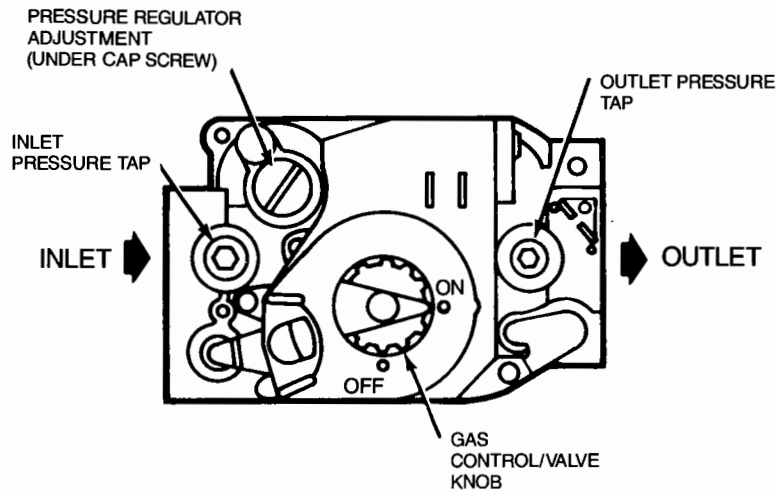
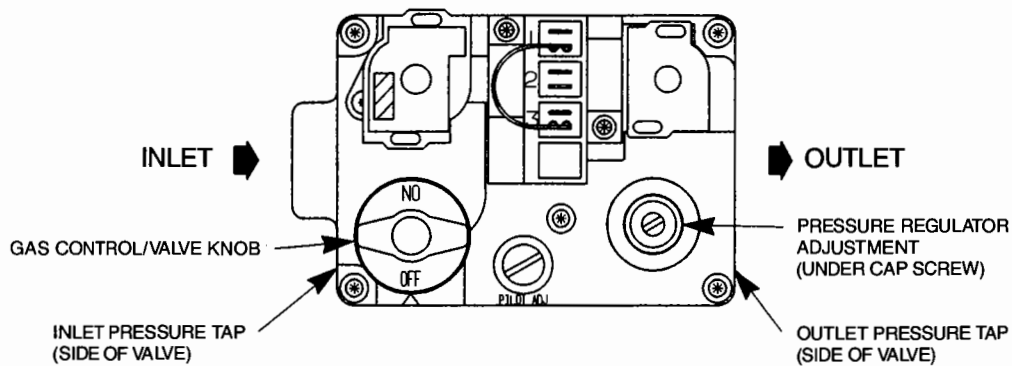
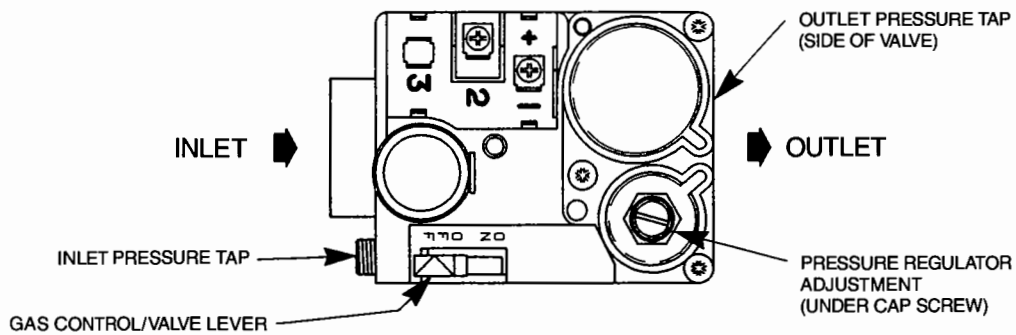

**FIG. 14A — HONEYWELL
**FIG. 14B — WHITE RODGERS
**FIG. 14C — ROBERTSHAW (GRAYSON)
6. Turn the gas control valve knob clockwise to the "Off" position for either the White Rodgers 36-E gas valve (Fig. 14B) or the Honeywell VR-8205 gas valve (Fig. 14A). For the Robertshaw 7200 gas valve, push in and slide the lever to the "Off" position (Fig. 14C). Do not force.
8. If you smell gas following the 5 minute waiting period in Step 7, follow the instructions on the cover of this manual. If you do not smell gas, then turn the gas control knob counterclockwise to the "On" position for either the White Rodgers 36-E gas valve (Fig. 14B) or the Honeywell VR-8205 gas valve (Fig. 14A). For the Robertshaw 7200 gas valve, push in and slide the lever to the "On" position (Fig. 14C). Do not force.
1. Connect a water manometer or adequate gauge to the "inlet pressure tap" of the gas valve. (See Fig. 14A, 14B, or 14C.)
A tapped opening is provided in the gas valve to facilitate measurement of the manifold pressure. ("Outlet Pressure Tap" in Figure 14A, 14B, or 14C.) A "U Tube" manometer having a scale range from 0 to 12 inches of water should be used for this measurement. The manifold pressure must be measured with the burners operating.
To adjust the pressure regulator, remove the adjustment screw or cover on the gas valve. ("Pressure Regulator Adjustment" in Figure 14A, 14B, or 14C.) (NATURAL GAS ONLY) Turn out (counterclockwise) to decrease pressure, turn in (clockwise) to increase pressure. Only small variations in gas flow should be made by means of the pressure regulator adjustment. In no case should the final manifold pressure vary more than plus or minus 0.3 inches water column from the specified pressure. Any major changes in flow should be made by changing the size of the burner orifice.
3. Turn the gas control knob clockwise  to the “Off” position for either the White Rodgers 36-E gas valve (Fig. 14B) or the Honeywell VR-8205 gas valve (Fig. 14A). For the Robertshaw 7200 gas valve, push in and slide the lever to the “Off” position (Fig. 14C). Do not force.